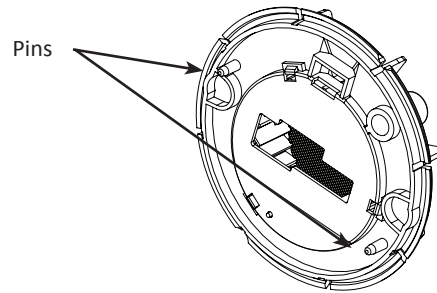

FIGURE 10: Pins on Back of Optic Cage Base
8. Line up the two pins on the back of optic cage base to the pin holes on the circuit board to place the optic cage base on the circuit board (FIGURE 10)